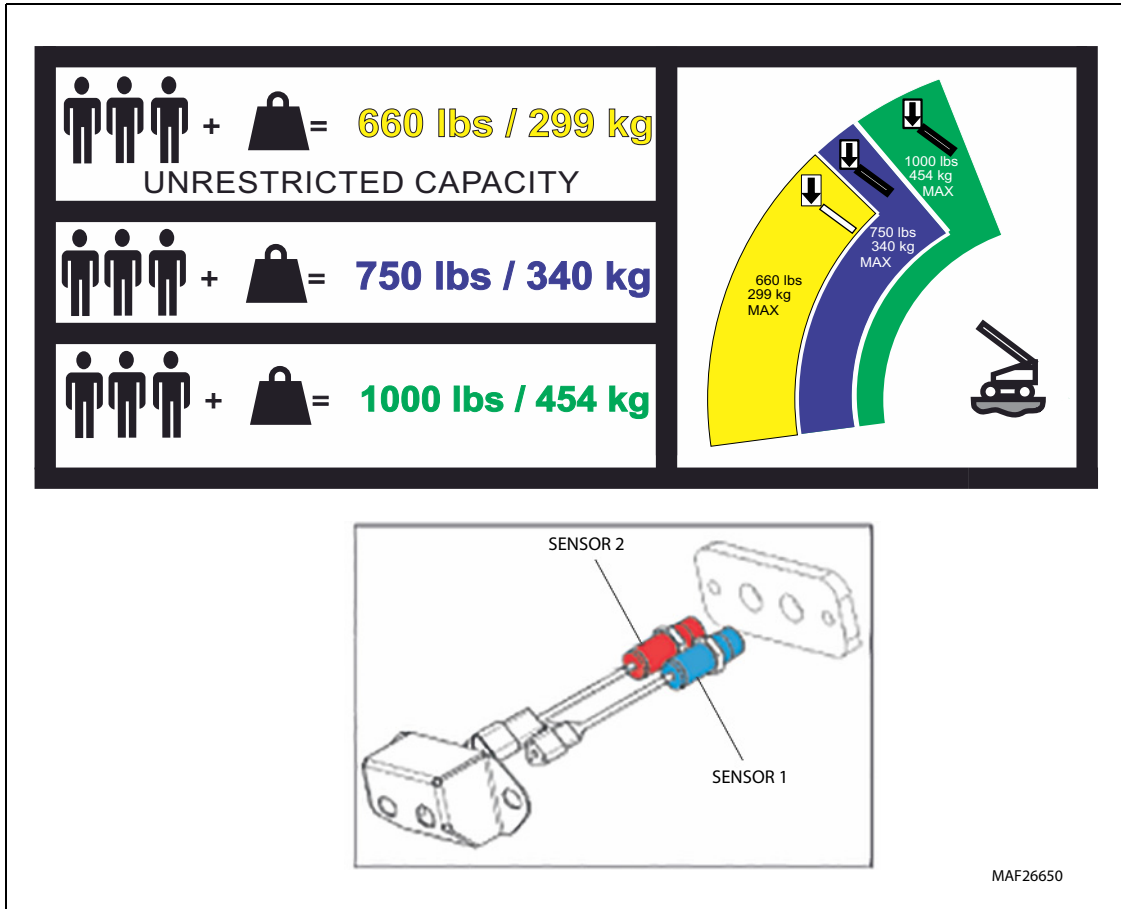

Figure 4-3. Capacity Sensors
Sensor 1 (right proximity sensor, refer Figure 4-3.) is a normally open sensor which is open in the unrestricted 660 lb (299 kg) zone. LED for Sensor 1 is OFF in this mode.
Sensor 2 (left proximity sensor, refer Figure 4-3.) is a normally closed sensor which is closed in the unrestricted 660 lb (299 kg) zone. LED for Sensor 2 is ON in this mode.
- The Machine Control System will allow the platform to go anywhere in the working envelope. The unrestricted 660 lb (299 kg) working envelope is shown in Figure 4-3.
The Sensor 1 (right proximity sensor, refer Figure 4-3.) is a normally open sensor which is open in the restricted 750 lb (340 kg) zone. LED for Sensor 1 is OFF in this mode.
The Sensor 2 (left proximity sensor, refer Figure 4-3.) is a normally closed sensor which is closed in the restricted 750 lb (340 kg) zone. LED for Sensor 2 is ON in this mode.
The Sensor 1 (right proximity sensor, refer Figure 4-3.) is a normally open sensor which is closed in the restricted 750 lb (340 kg) zone. LED for Sensor 1 is ON in this mode.
The Sensor 2 (left proximity sensor, refer Figure 4-3.) is a normally closed sensor which is open in the restricted 750 lb (340 kg) zone. LED for Sensor 2 is OFF in this mode.
- The Machine Control System will not allow the platform to go beyond the boundaries of the restricted 750 lb (340 kg) zone. It will allow retraction of the boom or lifting of the boom. The restricted 750 lb (340 kg) working envelope is shown in Figure 4-3.
The Sensor 1 (right proximity sensor, refer Figure 4-3.) is a normally open sensor which is closed in the restricted 1000 lb (454 kg) zone. LED for Sensor 1 is ON in this mode.
The Sensor 2 (left proximity sensor, refer Figure 4-3.) is a normally closed sensor which is open in the restricted 1000 lb (454 kg) zone. LED for Sensor 2 is OFF in this mode.
- The Machine Control System will not allow the platform to go beyond the boundaries of the restricted 1000 lb (454 kg) zone. It will allow retraction of the boom or lifting of the boom. The restricted 1000 lb (454 kg) working envelope is shown in Figure 4-3.